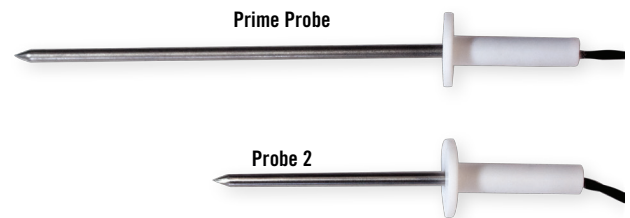

FIGURE 1
3. Plug probe into the probe jack on the face of the oven. (This unit comes with 2 probes: A 6" probe for Prime Rib and a 3" probe for other items. See Figure 1.)